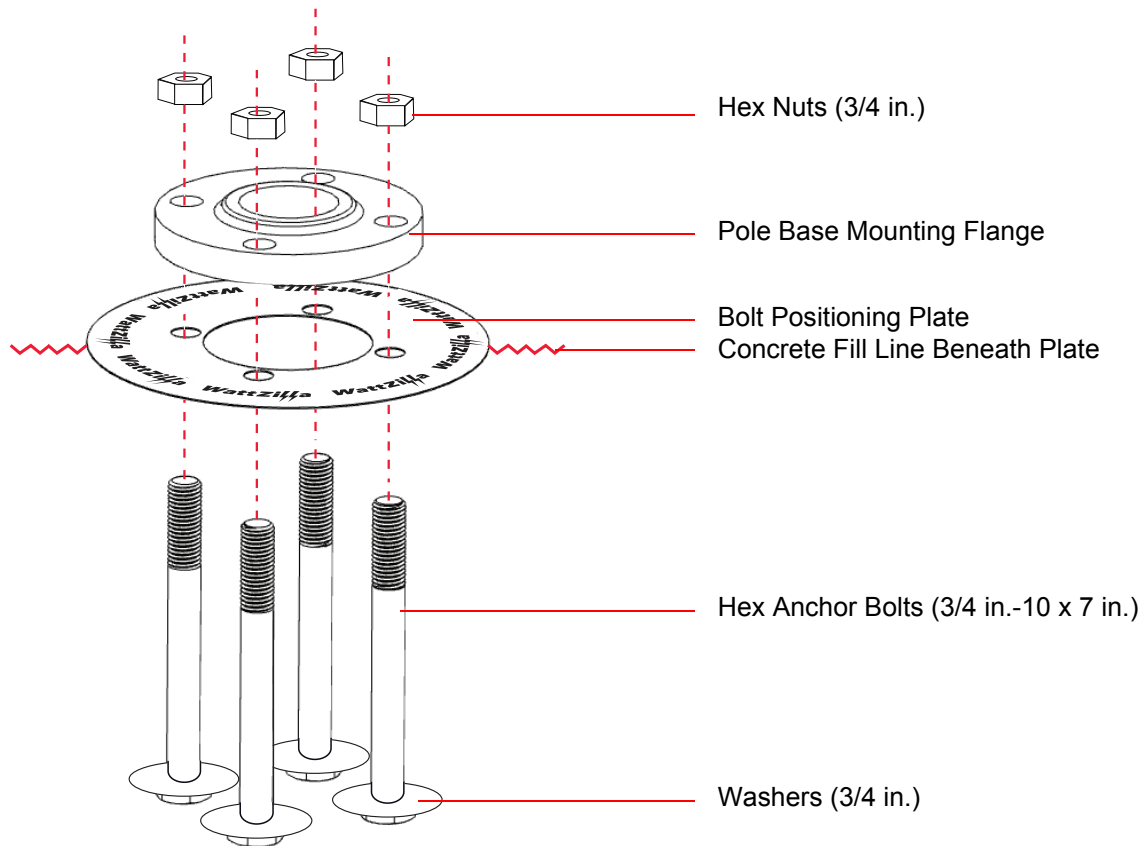

Figure 4. Pole Base Subassembly
2. Insert a washer onto each of the four hex anchor bolts (Figure 4).
8. Slide the pole base mounting flange over the bolt positioning plate (reference Figure 4).
9. Using a wrench, attach and adequately tighten and torque a hex nut onto each of the threaded ends of the hex anchor bolts extending out of the flange (reference Figure 4).